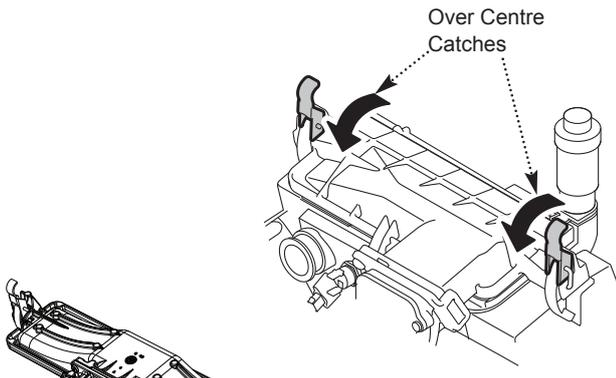
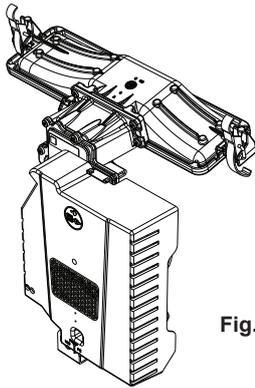

Fig. 46a
Fig. 46b
10. Remove the gas assembly (Fig. 46b) from the boiler by releasing the over-centre catches (Fig. 46a) that secure it to the heat exchanger.